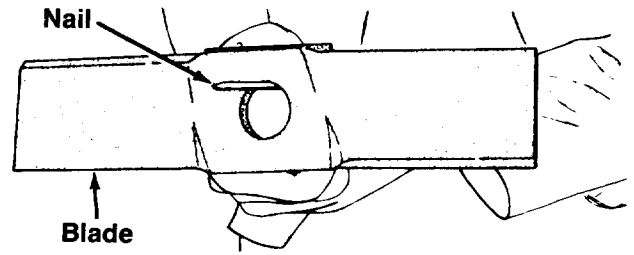

**FIGURE 20.**
- Lower the hopper assembly. Block up the housing. See figure 20.
- Hold the blade retainer on the impeller assembly with an adjustable wrench to keep the blade from turning as shown in figure 20.